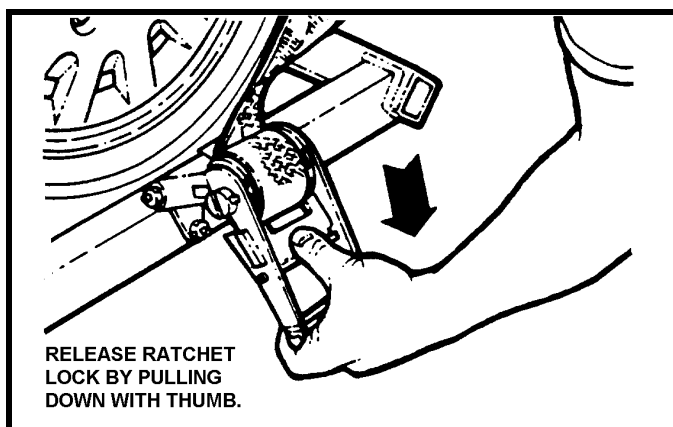

FIGURE 4A.9
- (a) Release Safety Strap Ratchet by releasing lock on Ratchet Lock Handle. See Figure 4A.9.